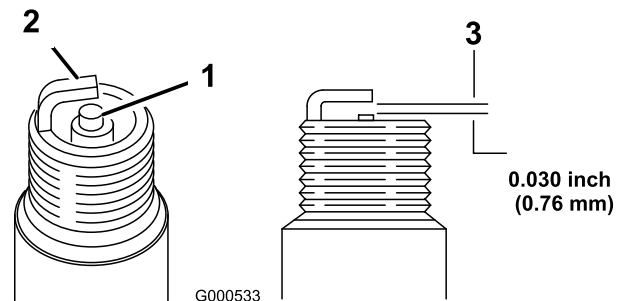

Figure 19
5. Set the gap on the plug to 0.76 mm (0.03 inch) (Figure 19).